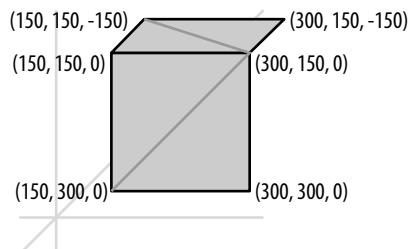

Figure 5-3. Dividing each face on the surface of a cube up into triangles so that we can draw them with Modelbuilder.
For now though, we'll start simple. We'll start by initializing our model using Modelbuilder's main class for representing shapes: `UGeometry`. Then, we'll start to create the faces of our cube. We'll break each face down into two triangles. As I explained at the start of this chapter, triangles are the basic atomic unit of 3D geometry and they're what we'll use to connect all of the depth point from the Kinect into a single smooth surface. Figure 5-3 illustrates the idea and shows some example coordinates for two sides of a 150 pixel cube. As you can see in the figure, we break each of these sides down into two triangles. Each triangle connects three of the four points that make up the side. The result is that each point ends up being part of multiple triangles.
- ① Our work with Modelbuilder starts at the top of the sketch where we import the library and declare our `UGeometry` object. Modelbuilder comes in two parts: `unlekker.util` and `unlekker.modelbuilder`. We need both of them to create our geometry and save our STL file. As I mentioned above, `UGeometry` is Modelbuilder's chief class for describing 3D shapes. We'll be calling methods on this `model` object throughout the sketch.
- ② Unlike most of the sketches in this book, this one does most of its work inside of its `setup` function. Since our geometry is not changing, we only need to create it once when the sketch starts up. Therefore, all of our code that adds triangles to our `model` object goes into `setup` instead of `draw`. Once we've created our geometry, in `draw` we'll just focus on displaying the model, including the rotations and translations necessary to get it to spin in place.
- ③ In `setup` we start by initializing our `model` as a new `UGeometry` object. With that out of the way, we're almost ready to start creating our cube.
- ④ First, though, we've got to tell Modelbuilder what shape our faces are going to be. This is just like when we displayed a 3D model using OBJLoader back in Chapter 3. We had to tell OBJLoader what kind of geometrical primitives it should use to display the model. The options were: `POINTS`, `LINES`, `TRIANGLES`, `QUADS`, `POLYGON`, `TRIANGLE_STRIP`, or `QUAD_STRIP`. These same options are available to us now. We could define our geometry using any of these. We've chosen `TRIANGLES`. Therefore, we kick off the modeling process by calling `model.beginShape(TRIANGLES)`. This tells our `model` that we're going to start adding geometry to it and that this geometry will take the form of triangles.
- ⑤ After we call `beginShape`, our `model` is ready to receive triangles. We'll build up our model using its `addFace` function. This function takes three points to define the triangle we want to add to the model. When we're talking about creating a 3D mesh, we call these points "vertices" because they exist at the intersection of multiple shapes. Each of our triangles is connected to others: they share vertices in common. We saw this illustrated in Figure 5-3 where each triangle shared at least two of its points in common with others. This sharing of vertices is what turns our set of points into a continuous surface and, eventually, a solid object.